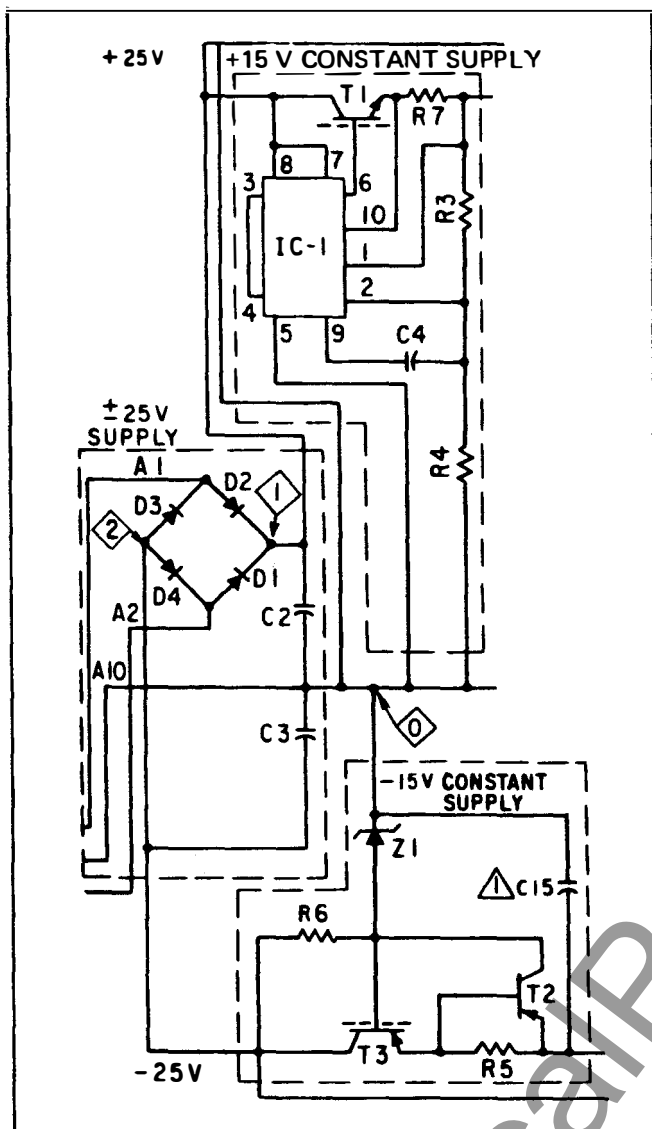

Fig. 6 ± 25 volt D.C. supply and ± 15 volt D.C. constant supply.
(Fig. 6)
20.0 -15V AND +15V D.C. CONSTANT SUPPLIES (Fig. 6)